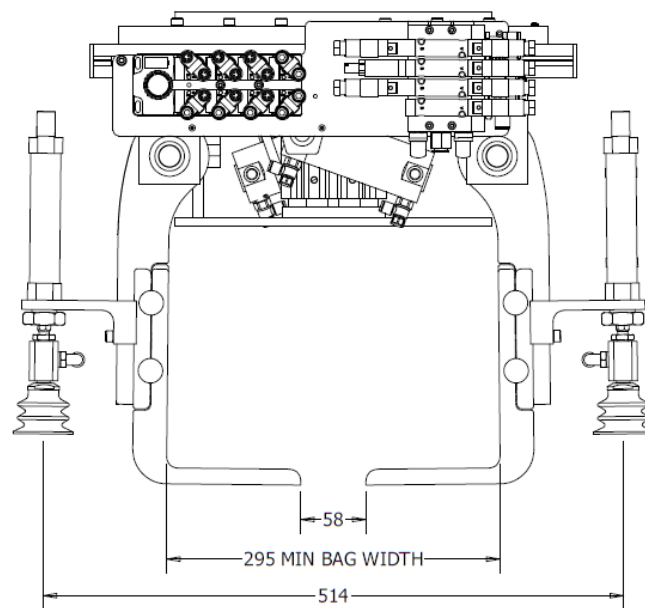

Figure 11 Bag gripper closed position, narrow bag (Factory setting).
- Position showing the finger assemblies moved toward center of tool to handle a narrow bag (Factory setting), see figure 11.